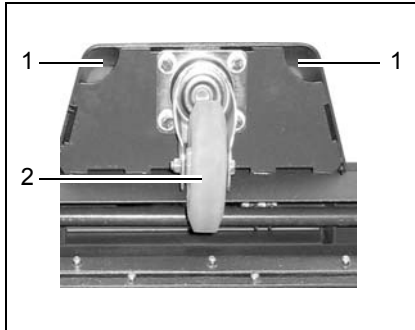

Fig. 13
- Secure the machine at the front with a strap which must be fed through the two openings (Fig. 13/1) near the front wheel (Fig. 13/2).